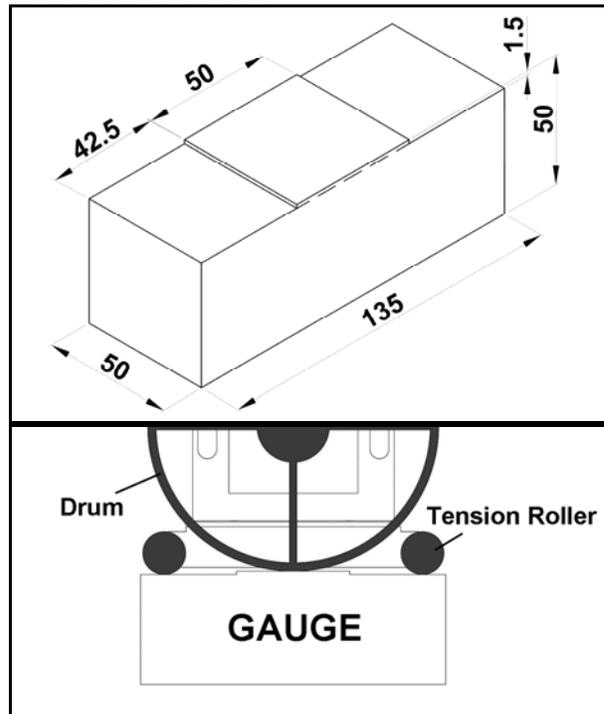

Figure 21
5. Put two same home made gauge blocks (Figure 21) made of hardwood on the conveyor bed directly underneath both ends of front drum. Lower drum while slowly rotating it by hand, until front drum lightly contacts gauge blocks. The infeed and outfeed rollers should be resting firmly on both lower sides of each gauge block as shown in Figure 21.